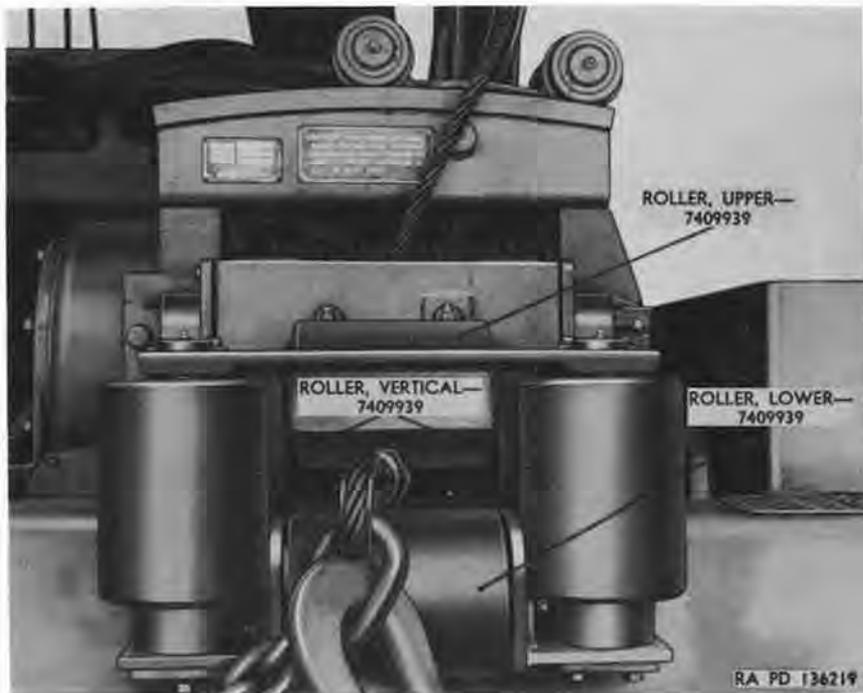
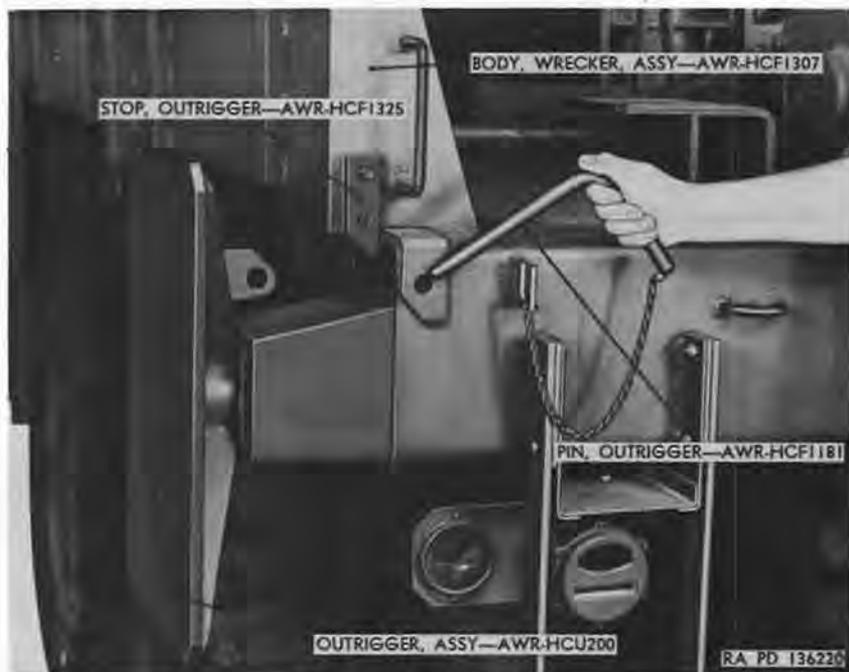

Figure 67. Rear winch cable guide rollers.
Figure 68. Removing outrigger assembly.
*a. General.* The wrecker body is of all welded steel construction and disassembly is limited to removal of the four outrigger assemblies (fig. 68) and the upper, lower, and vertical cable guide rollers (fig. 67). Replacement of the wrecker body necessitates removal of the complete wrecker crane and rear mounted winch. For complete and detailed instructions on removal of the wrecker body, refer to TM 9-837.
b. *Outriggers* (fig. 68).
- (1) Remove two cap screws and lockwashers from outrigger stop and remove stop.
- (2) Remove outrigger pin and remove the outrigger assembly.
- (3) Proceed in the same manner as outlined in (1) and (2) above and remove the other three outrigger assemblies.
*Note.* The two vertical rollers must be removed before lower roller (fig. 67) can be removed.
*b. Outriggers* (fig. 68). Attach suitable hoisting equipment and